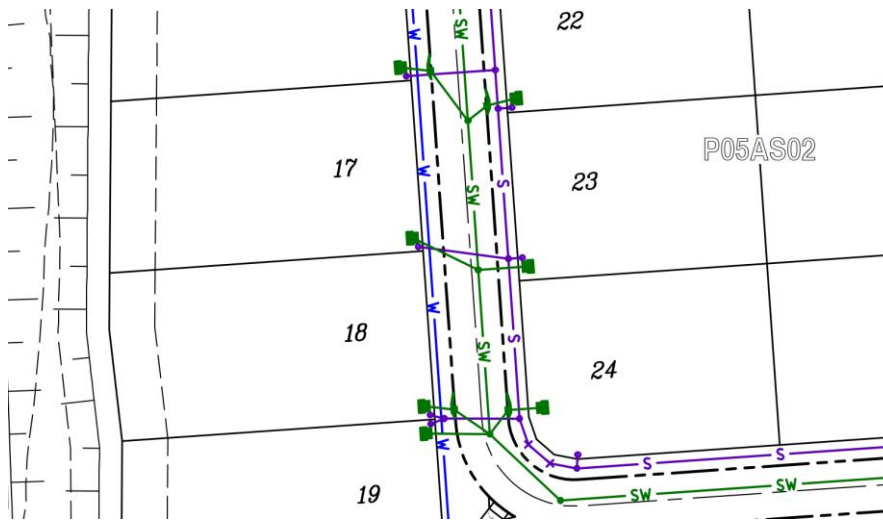

Figure 5: Estate Connection Points
- A site connection point has been provided at both Lots 17 and 18 as described in Figure 5 below.